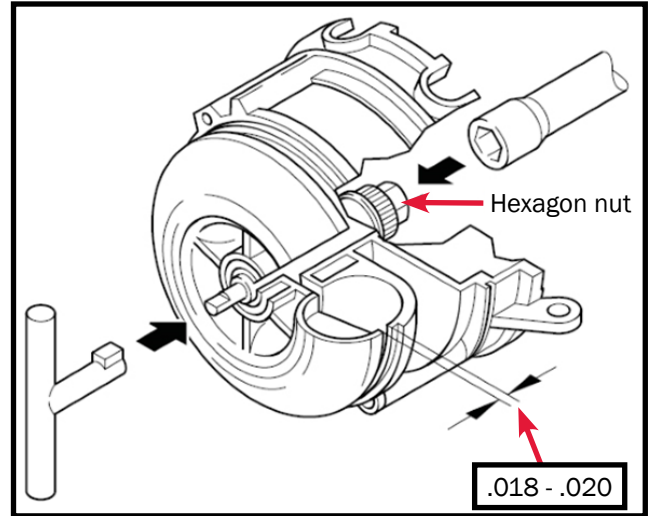

**Figure 115**
**NOTE:** Be sure to observe the placement of the three washers of the bearing kit. To ensure proper tension, the same order and direction of the dished surfaces of the washers must be followed when reassembling. See Figure 115.
- Reference Figure 115 for exact placement of the three washers that slide over the threaded end of the combustion air blower's shaft prior to installation. Failure to follow the correct order and direction of the dished surfaces on the washers will result in a restricted rotation of the combustion air blower.